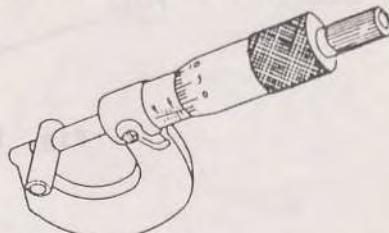
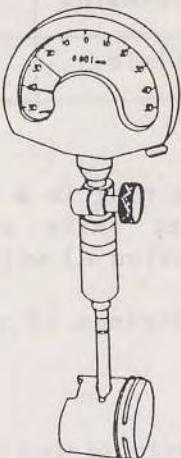

Fig. 14
Fig. 15
- (2) Clearance between piston and piston pin (Fig. 14, Fig. 15)